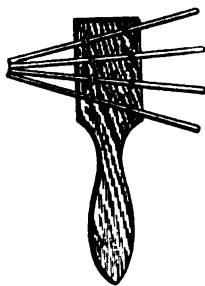

FIG. 130.—Solids conduct heat.
**151. Conduction.**—To illustrate conduction, place in a gas flame the ends of same metal wires supported as in Fig. 130. In a short time the other ends of the wires become hot enough to burn one's hand. This may be explained as follows: The hot gas flame contains molecules in violent vibration and those striking the wire set its molecules rapidly vibrating. Since, in a solid, the molecules are held in the same relative positions, when one end of a wire is heated the rapidly vibrating molecules at the hot end set their neighbors vibrating and these the next in turn and so on until the